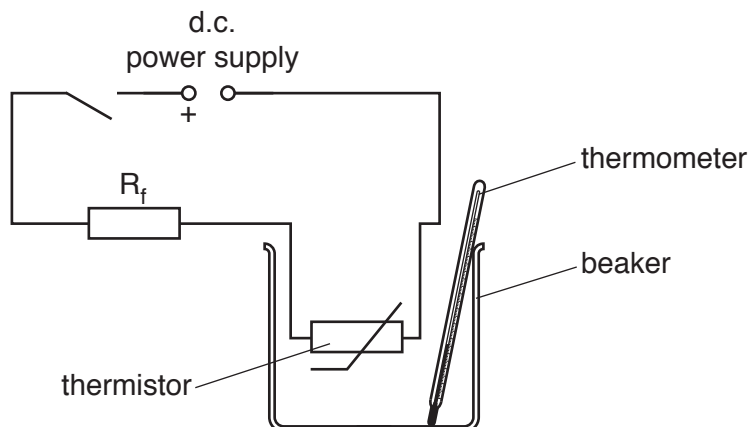

Fig. 4.1
- The $47\ \Omega$ fixed resistor is part of a circuit shown in Fig. 4.1 which must be set up by the Supervisor. The resistor should have a power rating of 0.5 W or higher. The resistor should have suitable terminals to enable further connections to be made.
5. At the changeover the Supervisor should ensure that the beaker containing the thermistor has no water in it, that sufficient hot water is available for the next candidate and that the circuit is restored to the arrangement shown in Fig. 4.1 with the switch open.